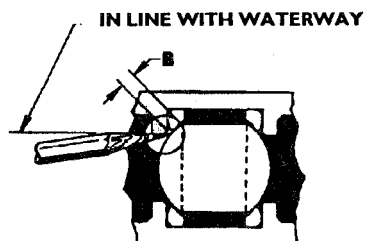

Figure 3
**Valve Closed Position:** With the valve in the closed position against the stops, make a pencil mark on the ball as in Figure 3. Open the valve partly and measure dimension "B". The measurement should deviate no more than  $\pm 1/32"$  of dimension "B" given in Table II.